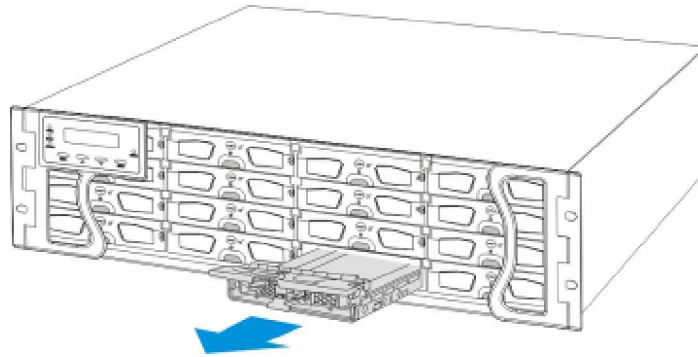

Figure 5-32: Removing a Drive Tray
**Step 4. Remove the drive tray with the hard drive**, gently and carefully withdrawing the drive tray with hard drive from the chassis. (See *Figure 5-32*)